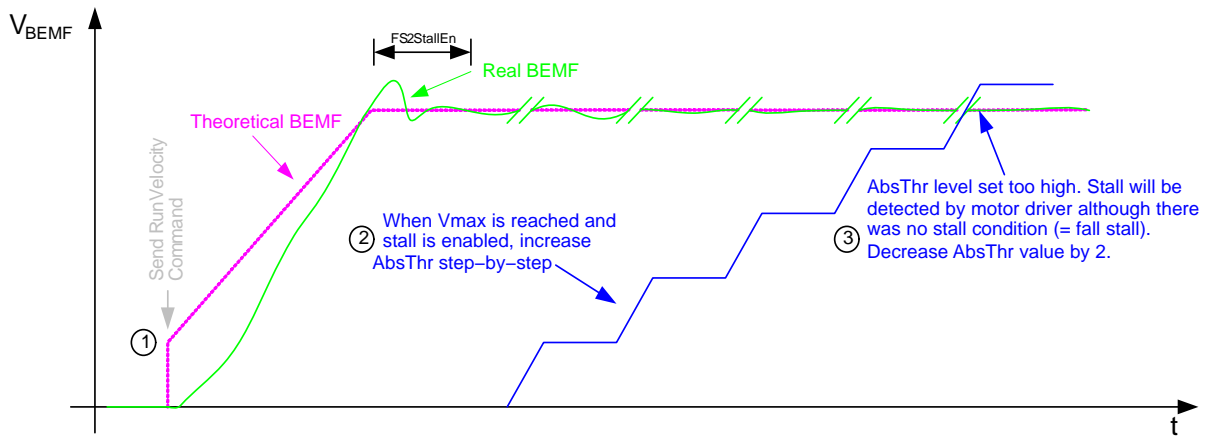

Figure 36. Define AbsThr For a Free Running Motor
Step 4a: When spinning at maximum velocity ( $V_{max}$ ) increase AbsThr value by one. If the motor is still rotating, increase AbsThr again. Do this until the motor stalls without hitting an end position (= falls stall). If falls stall is detected, the AbsThr value is set too high. Decrease the (hexadecimal) value by 2 (if possible) to have a good AbsThr setting. See also Figure 36.